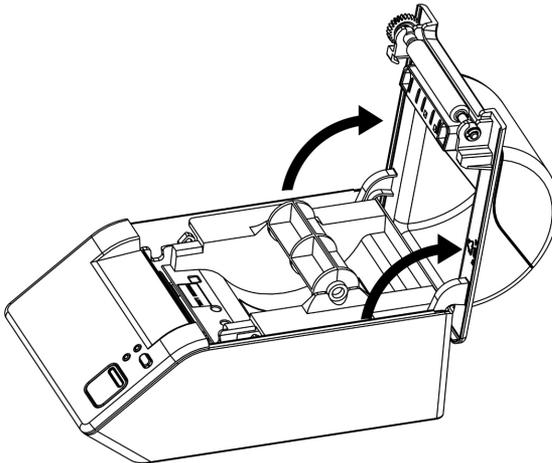

Figure 2.4.2
2. Open the top cover to the position shown in figure 2.4.2.